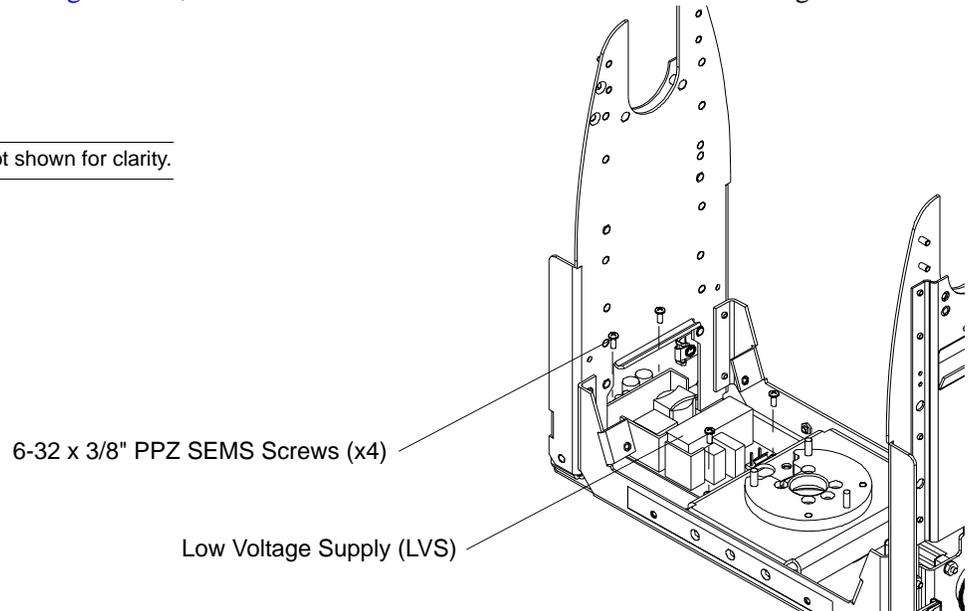

Figure 2-13: VLX Wash LVS Removal
Step 6. As shown in Figure 2-13, remove four 6-32 x 3/8" PPZ SEMS screws securing LVS.